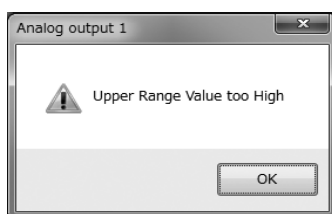

Fig.190
- ② If a mistake is discovered in settings on the transmitter side after the setting items are inputted and the "OK" button is clicked, then the error box shown in Fig. 190 will be displayed. Click the "OK" button and correct the mistaken input. Also note that if an input error is discovered on the transmitter's side, then a message will be displayed with error details, so use this as a guide when correcting the input.